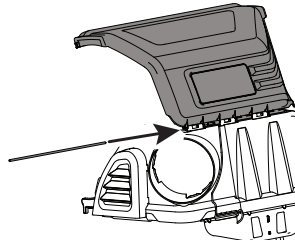

Figure 11
6. From the front of the assembly, line up the tabs on the hood assembly with the tabs at the front of the upper chute support. Slide the hinge pin through the slots beginning at the right side upper chute support of the mounting tabs, as in Figure 11. Push the pin all the way in until it reaches the end-stop.